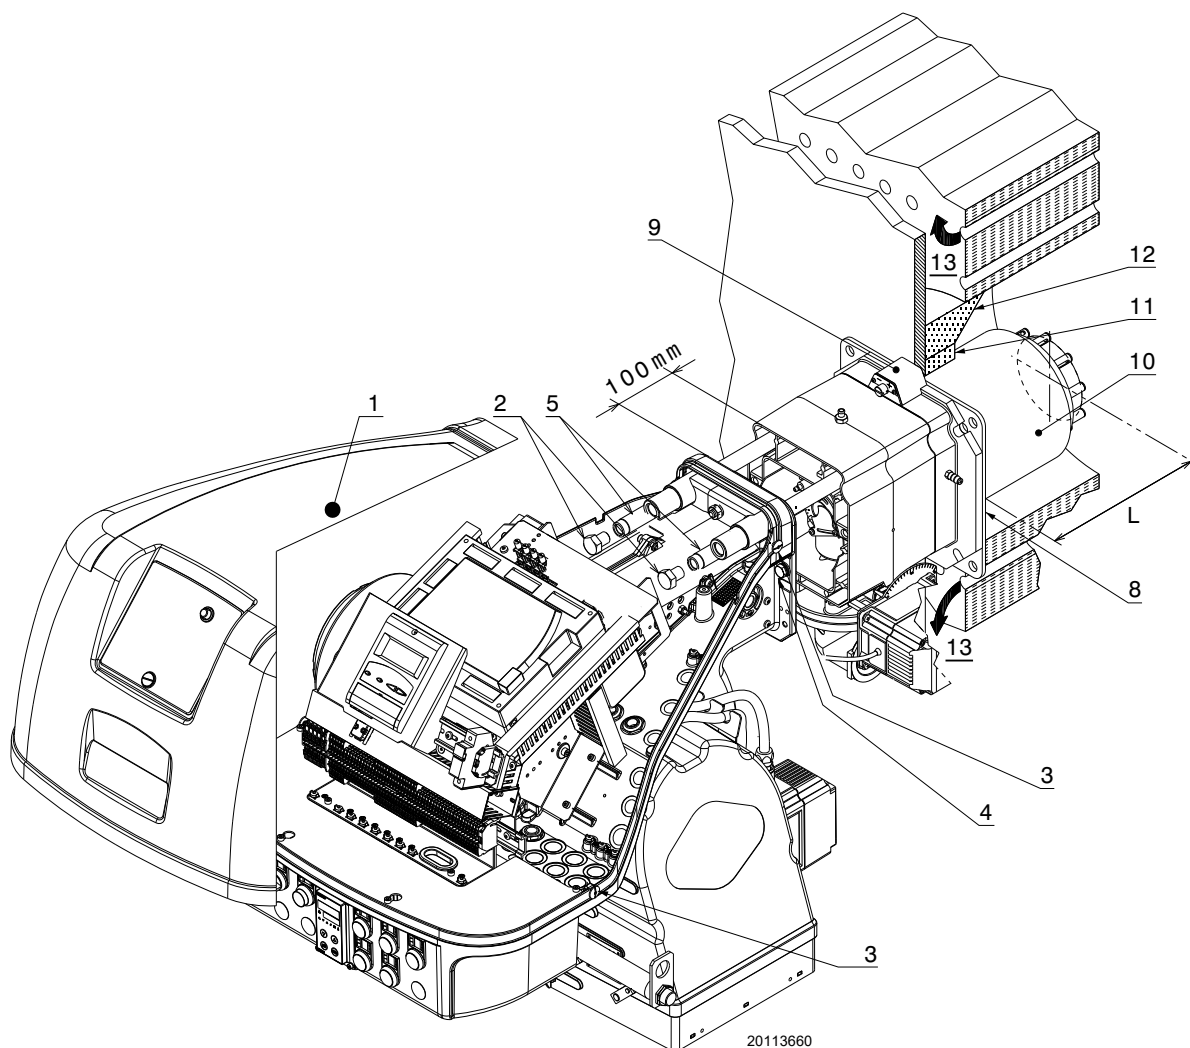

Fig. 16
For boilers with front flue passes 13)(Fig. 16 at page 21), or flame inversion chambers, a protection in refractory material 11) must be inserted between the boiler refractory 12) and the blast tube 10).
Separate the combustion head from the rest of the burner, as in Fig. 16; proceed as follows:
- reassemble the burner on the guides 3) at about 100 mm from the pipe coupling 4) - burner in the position shown in Fig. 16;